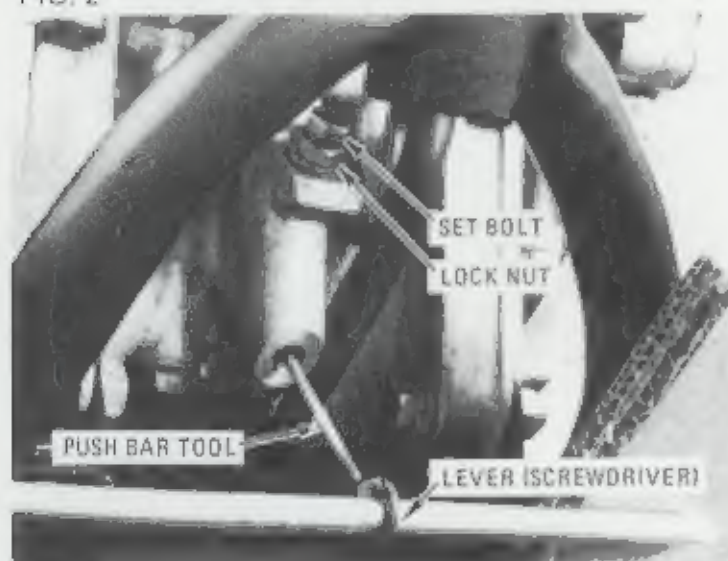

FIG. 3
3. Remove the push bar cap. Screw the push bar tool into the push bar. Insert a lever (such as a large screwdriver) through the eye of the tool handle. Position the lever so the frame tube can be used as a fulcrum (Fig. 3). Pad the frame with cardboard, wood, or a shop rag to prevent scratching.